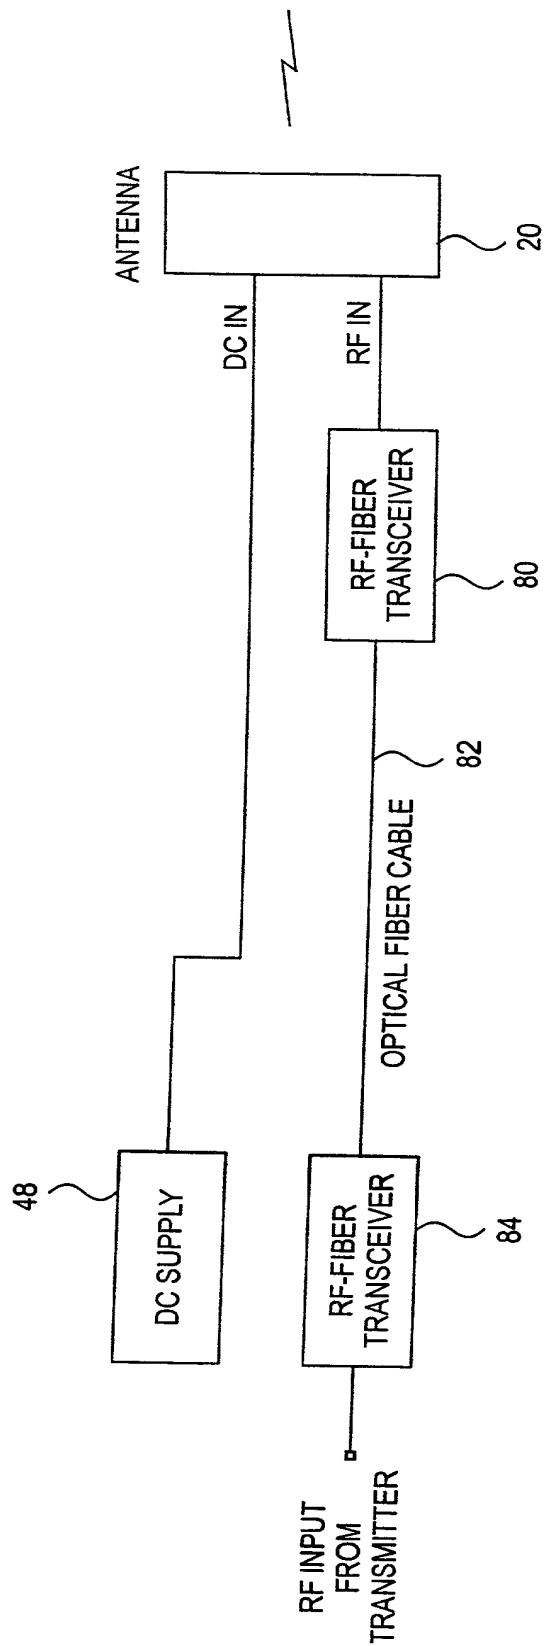

FIG. 8
FIG. 8 is a block diagram of a system for transmitting and receiving RF signals via an optical fiber cable. The system includes a DC supply (48), an RF-fiber transceiver (84), an optical fiber cable (82), another RF-fiber transceiver (80), and an antenna (20). The DC supply (48) provides power to both RF-fiber transceivers (84 and 80) and the antenna (20). The RF-fiber transceiver (84) receives an RF input from a transmitter and converts it to an optical signal for transmission over the optical fiber cable (82). The optical fiber cable (82) carries the optical signal to the second RF-fiber transceiver (80), which converts it back to an RF signal for the antenna (20) to transmit.